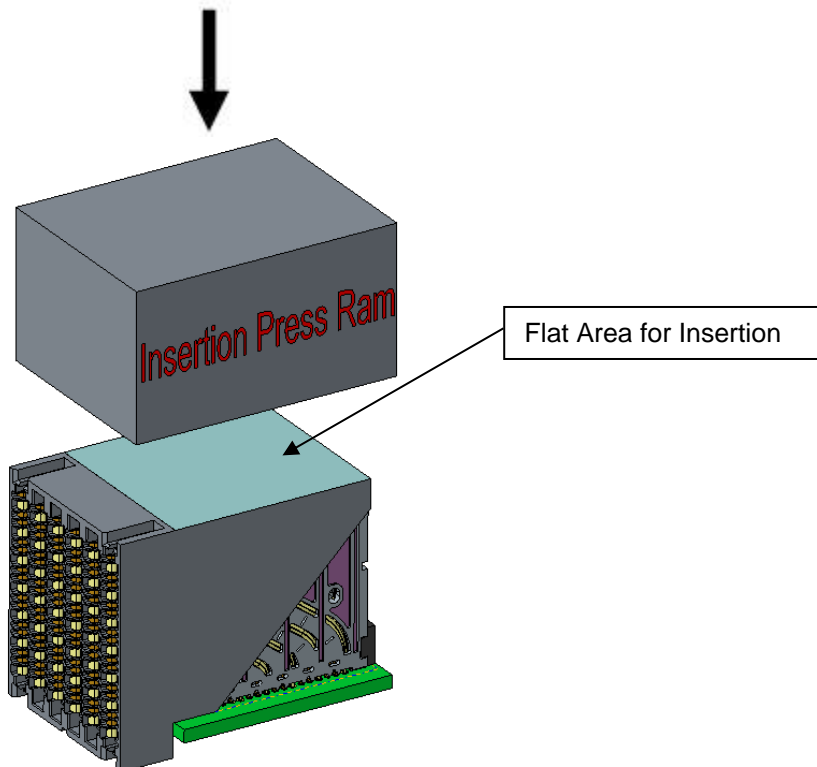

Figure 27: Insertion Press Ram Tool Application to Seat Right Angle Connector
- Using an insertion press ram surface, apply force to the flat area of the connector as shown in figure 27.